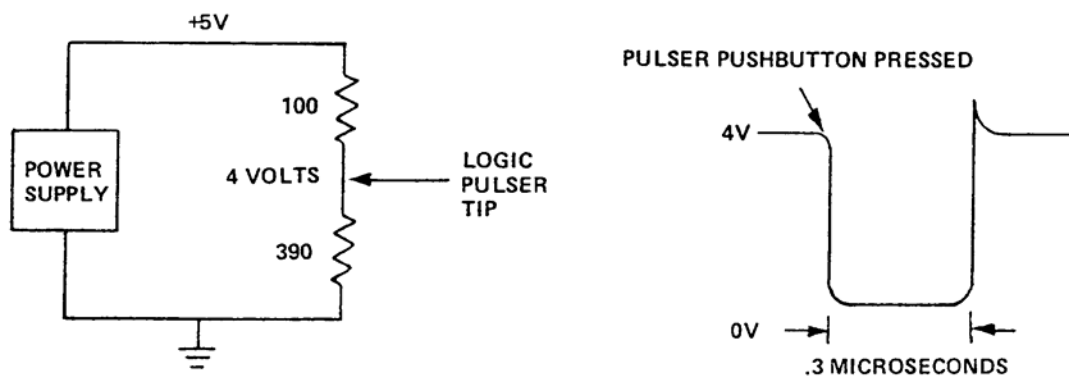
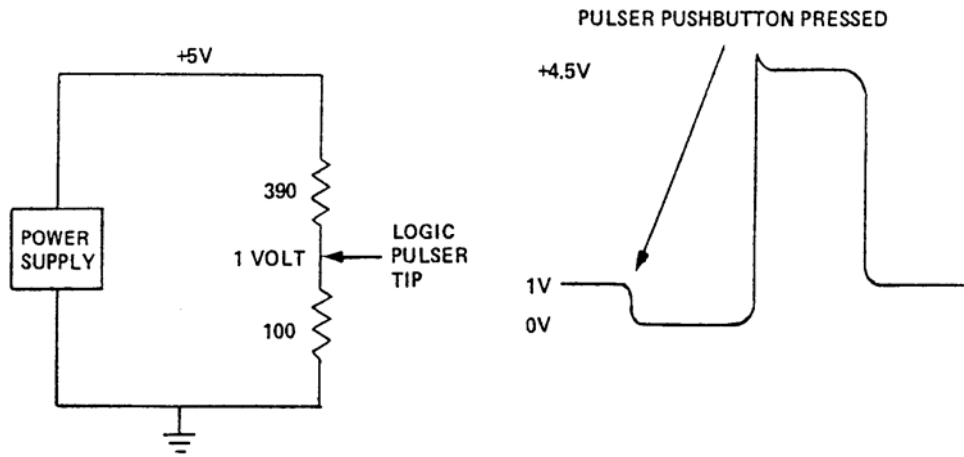

Figure Q-2. Low Output
Figure Q-3. High Output
a. The main use for the pulser is changing existing logic levels in a circuit (Figure Q-2). In Figure Q-3, the pulser is connected to approximately 4V. This is a typical voltage for a logic 1. When the pulser push-button is pressed, it causes that point in the circuit to go to a logic 0, or low, for about 0.3 microseconds.